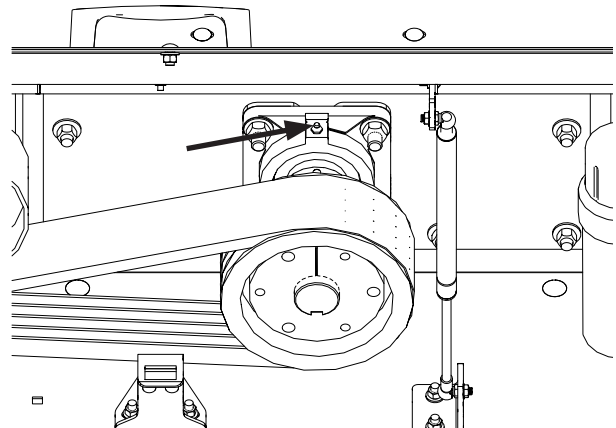

Figure 28. Rotor End Bearing Lubrication Point
1. Lubricate rotor end (Figure 28) and center bearings under the unit.